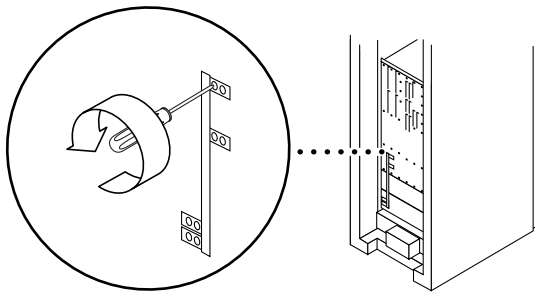

FIGURE 12-17 Removing the Bus Bar—Sun Fire 4810 System
9. Remove the eight screws securing the bus bar to the backplanes (FIGURE 12-17.)
2. Secure the bus bar to the centerplane by replacing the eight screws (FIGURE 12-17).